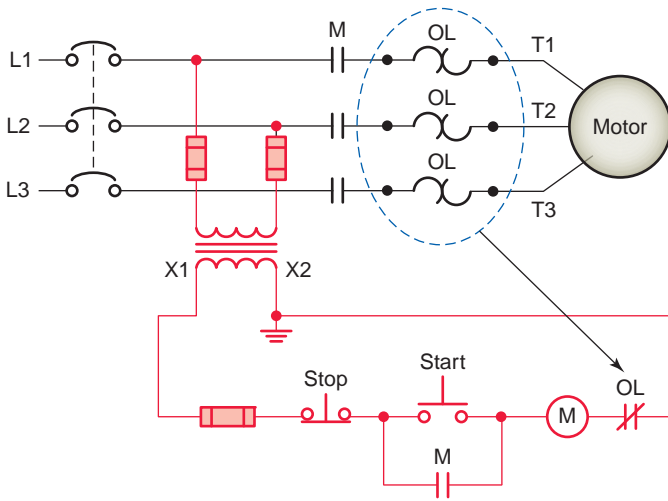

Figure 6-38 Thermal overload relay circuit operation.
With a thermal overload relay, the same current that goes to the motor coils (causing the motor to heat) also passes through the thermal elements of the overload relays. The thermal element is connected mechanically to an NC overload (OL) contact (Figure 6-38). When an excessive current flows through the thermal element for a long enough time period, the contact is tripped open. This contact is connected in series with the control coil of the starter. When the contact opens, the starter coil is deenergized. In turn, the starter's main power contacts open to disconnect the motor from the line.